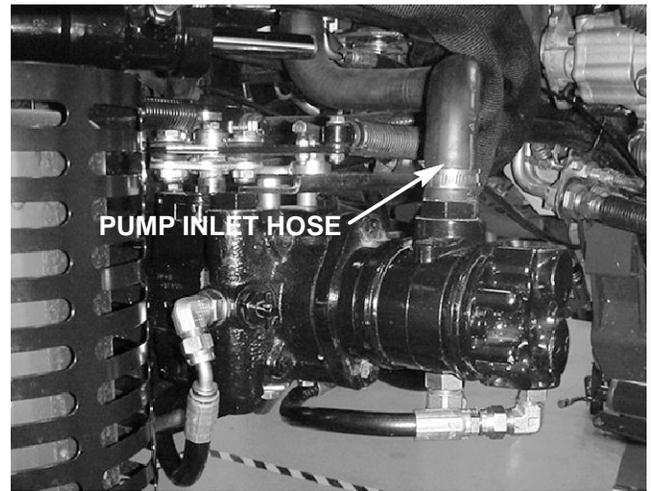
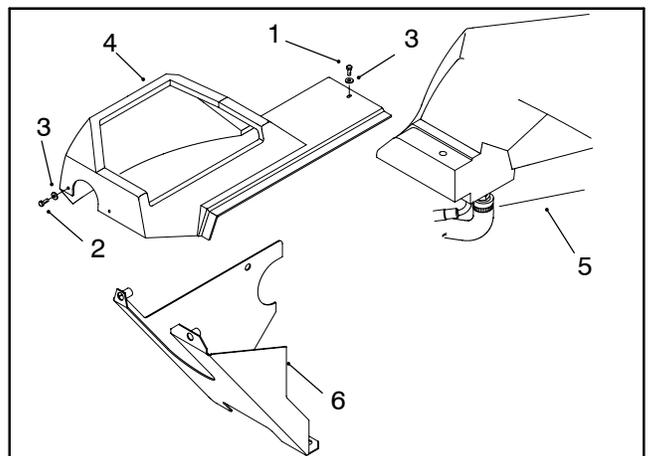

Figure 85
Figure 87
2. Place a suitable container under the hydrostat to collect hydraulic oil. Clamp pump inlet hose to prevent drainage. Remove pump inlet hose from hydrostat and direct to container. Release clamp from hose (Fig. 85).
5. Remove cap screw and flat washer securing the console shroud to the hydraulic tank. Remove both cap screws and flat washers securing the console shroud to the lower panel (Fig. 87).
6. Remove three hex head screws and flat washers securing the mounting plate (29) to the frame. Two screws are located on the top of the plate at the front corners of the fuel tank. The third screw is in front of the castor fork and below the plate.
7. Tilt mounting plate (29) up by lifting at the rear of the machine. Prop up plate securely. Remove four cap screws (16) and flat washers (12) securing the hydraulic tank (6) to the mounting plate.
8. Remove hydraulic tank (6) from the mounting plate (29).
1. Place antiseize lubricant into all four inserts at the bottom of the hydraulic tank (6). Position tank onto the mounting plate (29).
2. Secure hydraulic tank to the mounting plate with four cap screws (16) and flat washers (12). Torque cap screws from **30 to 60 in-lb (3.4 to 6.8 N-m)**.
3. Secure mounting plate (29) to the frame with three hex head screws and flat washers. Two screws go on the top of the plate at the front corners of the fuel tank. The third screw goes in front of the castor fork and below the plate.
4. Secure console shroud to the hydraulic tank with cap screw and flat washer, and to the lower panel with both cap screws and flat washers (Fig. 87).
5. Secure return hose (21) to hydraulic barb fitting (9) with hose clamp (23).
6. Secure pump inlet hose to hydrostat with hose clamp (Fig. 85).